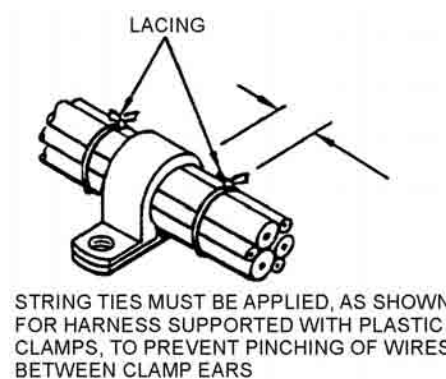

Figure 28. Plastic Clamp
c. -F: One digit code indicating whether the clamp has a flat center surface (-F) or has ribs (-R) (Figure 28).
49. Installing Clamps. Install AS21919 cable clamps as shown in Figure 29. The mounting screw should be above the wire bundle, if possible. It is also desirable that the back of the cable clamp rest against a structural member. Use hardware, as shown in Figure 30, to mount cable clamps to structure. Be careful not to pinch wires in cable clamp. If the wire bundle is smaller than the nearest clamp size, or if a clamp of the proper size is not available, wrap the wire bundle with the necessary number of turns of non-adhesive insulating tape (Figure 5) so that the bundle will be held securely in the clamp. Typical examples of how clamps are to be mounted are shown in Figure 28 and Figures 31-35. For the installation of AS25281 Nylon Clamps, secure the wires with lacing tape/tie string to prevent pinching of wires. Tie string shall be installed on both sides of the nylon clamp within the distance equivalent to a clamp width.